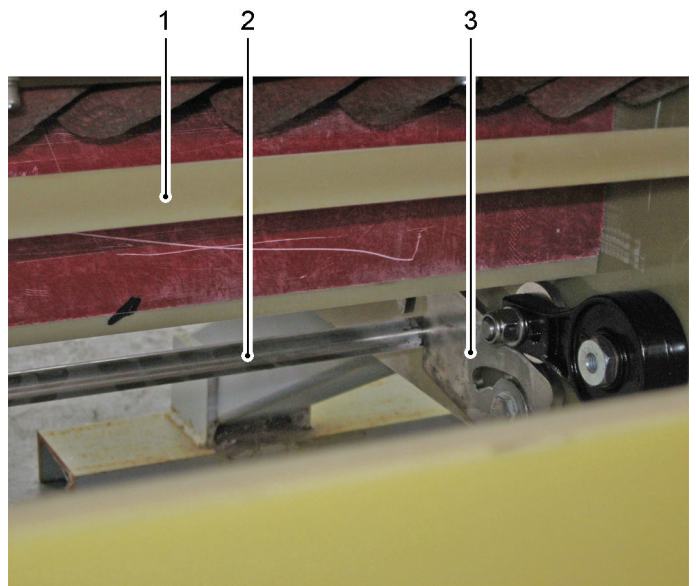

Figure 6.36 - Partial opening of the clamp coil by hooking arms kept lifted
- 10) In case the hooking arms (see Figure 6.36/3) remain lifted, it could happen in case you partially open the clamp coil (1) and then try to close it, pull the handle bar (2) on the clamp coil (1) shoulder a bit trying to open it. The same result is obtained by lifting a bit the clamp coil (1) with the crane.